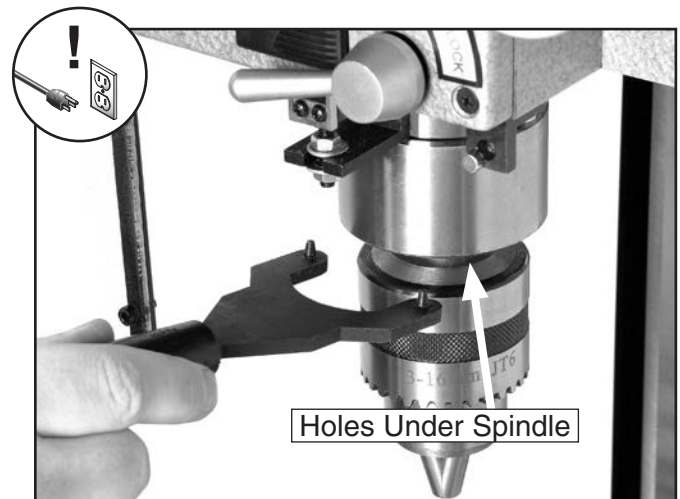

Figure 12. Spindle holes.
4. Insert the pin spanner into the two holes at the bottom of the spindle (see **Figure 12**).